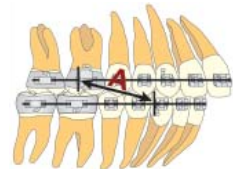

Figure 1.
- b. Measure from the distal edge of the lower cuspid bracket to the distal end of the upper molar facebow tube (Figure 1).
- c. See the chart below for measurement ranges (A) and part numbers.